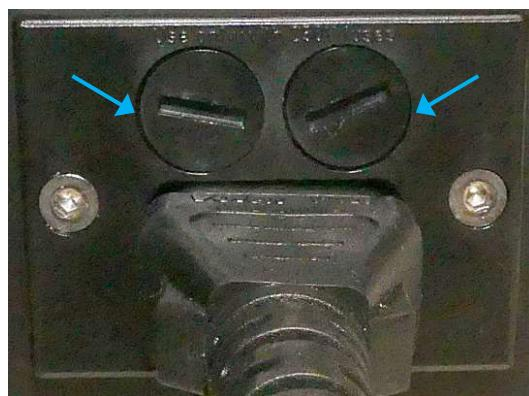

Figure 2: Position of fuses
In case of a malfunction of the power supply the customer may change the built-in fuses. The two fuses are located in the fuse holders right above the kettle plug as shown in Figure 2.
- Unscrew protection cap (Figure 2, blue arrows)